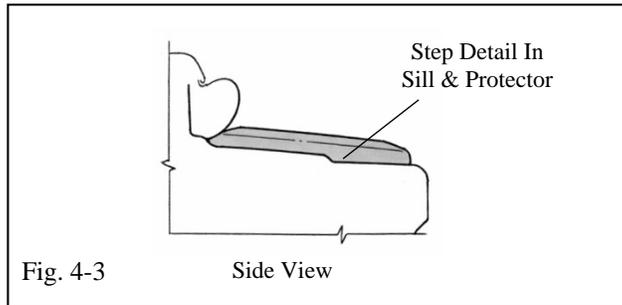

Fig. 4-3
- d. Position protector and ensure end step detail matches step detail in sill and is touching edge of masking tape, tack peeled corner down (Fig. 4-3).